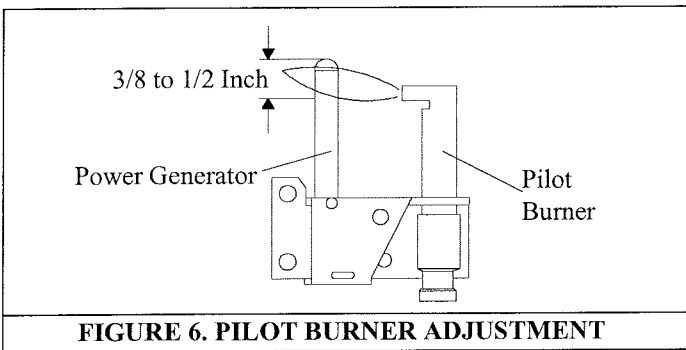

FIGURE 6. PILOT BURNER ADJUSTMENT
2. Adjust pilot screw to provide properly sized flame. *See Figure 6.*